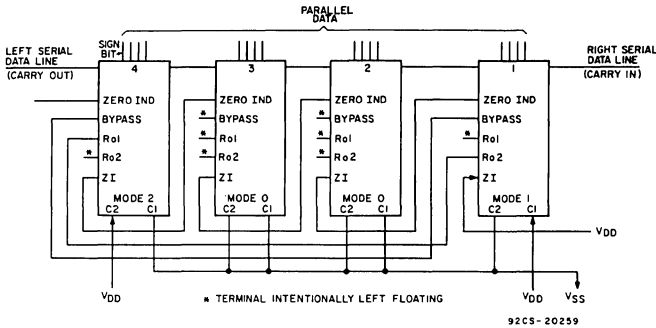

Fig. 11 — Connection for 16-bit arithmetic logic unit.
Data-flow interruptions are shown by shaded areas. With these three ALU's and the four available modes, 61 more system combinations can be formed. If 4 ALU's are used, 44 combinations (256) are possible. Fig. 11 shows a diagram of 4 CD4057A's inter-connected to form a 16-bit parallel processor.
The condition of "all zeros" is indicated by a "1" on the Zero Indicator terminal of the "Most Significant" CD4057A. As shown in Fig. 11, terminal Z1 of the CD4057A containing the least significant set of bits is connected to VDD. Zero indication is independent of modes.